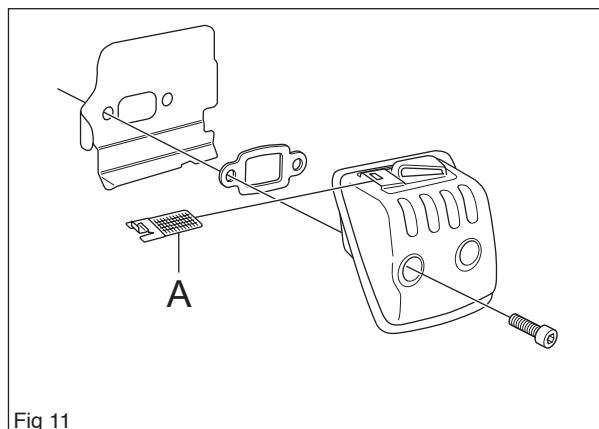

Fig 11
If the saw is fitted with a spark arrestor mesh (A) this must also be removed. (see figure 11)